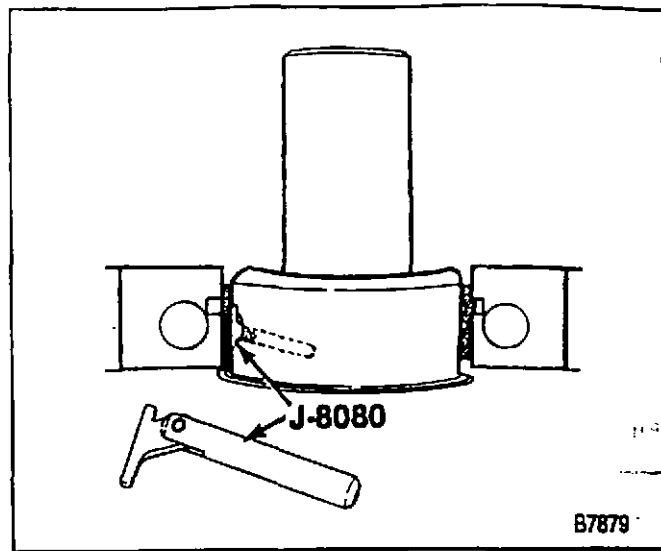

Figure 18—Removing the Main Bearing Insert
Remove or Disconnect (Figure 18)
- A. Insert J 8080 into the crankshaft oil hole (figure 18).